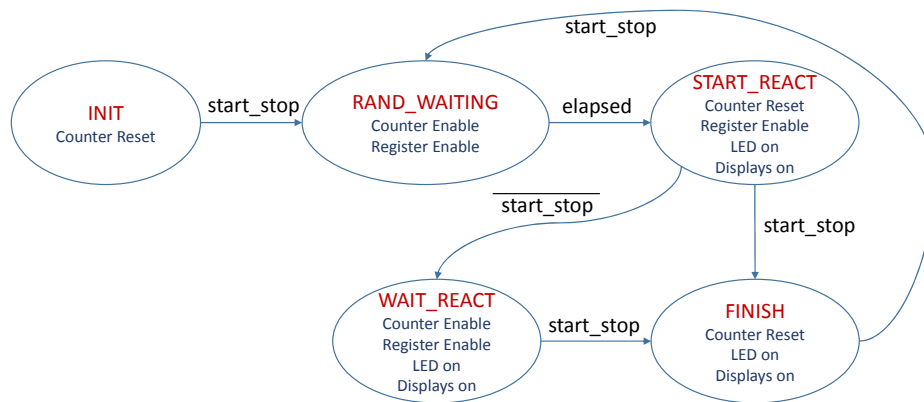

Figure 3 – State diagram of the reaction timer control module.
6. The reaction timer is controlled by the module *ReactionControl*, which implements a Moore finite state machine whose diagram is illustrated in Fig. 3. Analyze the given VHDL code and check if it corresponds to the state diagram from Fig. 3.